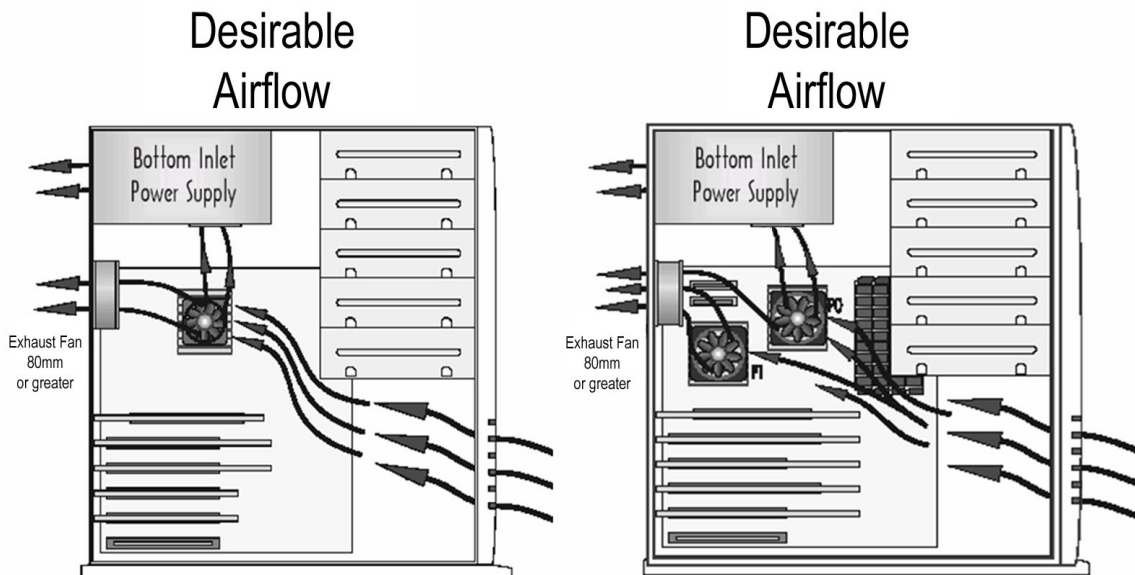
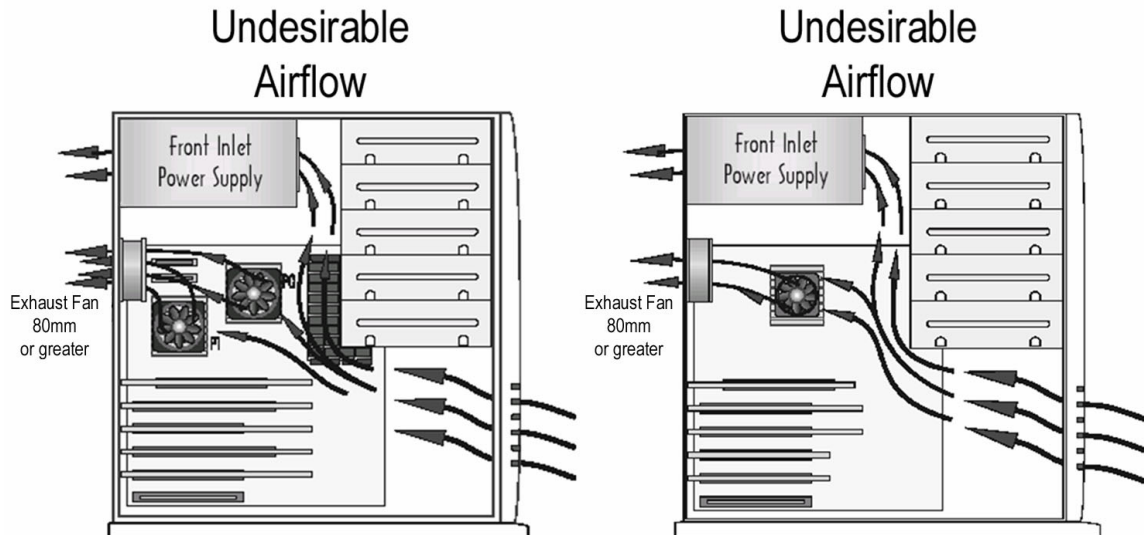

Figure 21. Desirable Airflow—Power Supply with Bottom Inlet
Figure 22. Undesirable Airflow—Power Supply with Front Inlet Only
- Testing done by the AMD thermal engineers has shown that the airflow pattern in Figure 21 is more desirable than the airflow pattern seen in Figure 22 on page 31.
Because heatsinks are heat radiators, like the radiator in an automobile, they need airflow to function properly. Figure 21 shows desirable airflow through a chassis. Both desirable configurations use a bottom-inlet power supply.
Figure 22 on page 31 shows undesirable airflow through a chassis. Both undesirable configurations use a front-inlet power supply.